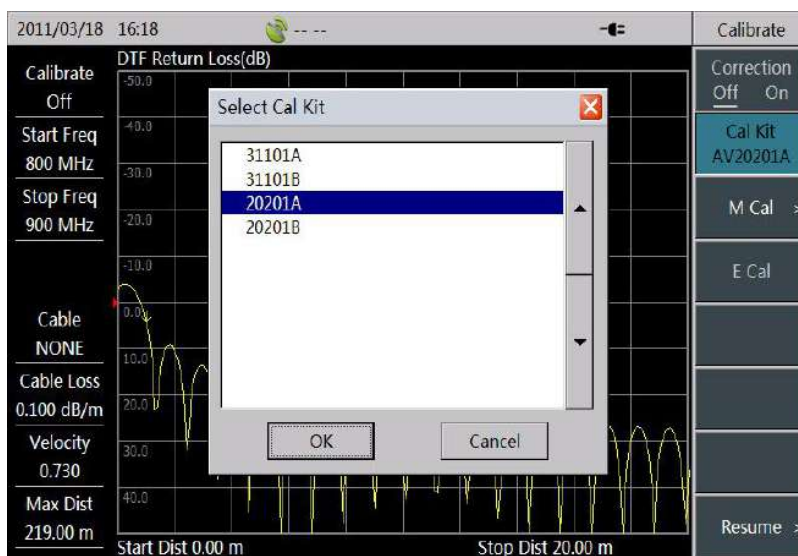

Figure 1-3 Calibration Kit Model Select
- 7) Select [Cal Kit] menu, then choose the matched model of calibration kit from “Select Cal Kit” list popped up in the screen, and select the “OK” key or **【Enter】** to finish the calibration kit selection, as shown in Figure 1-3: